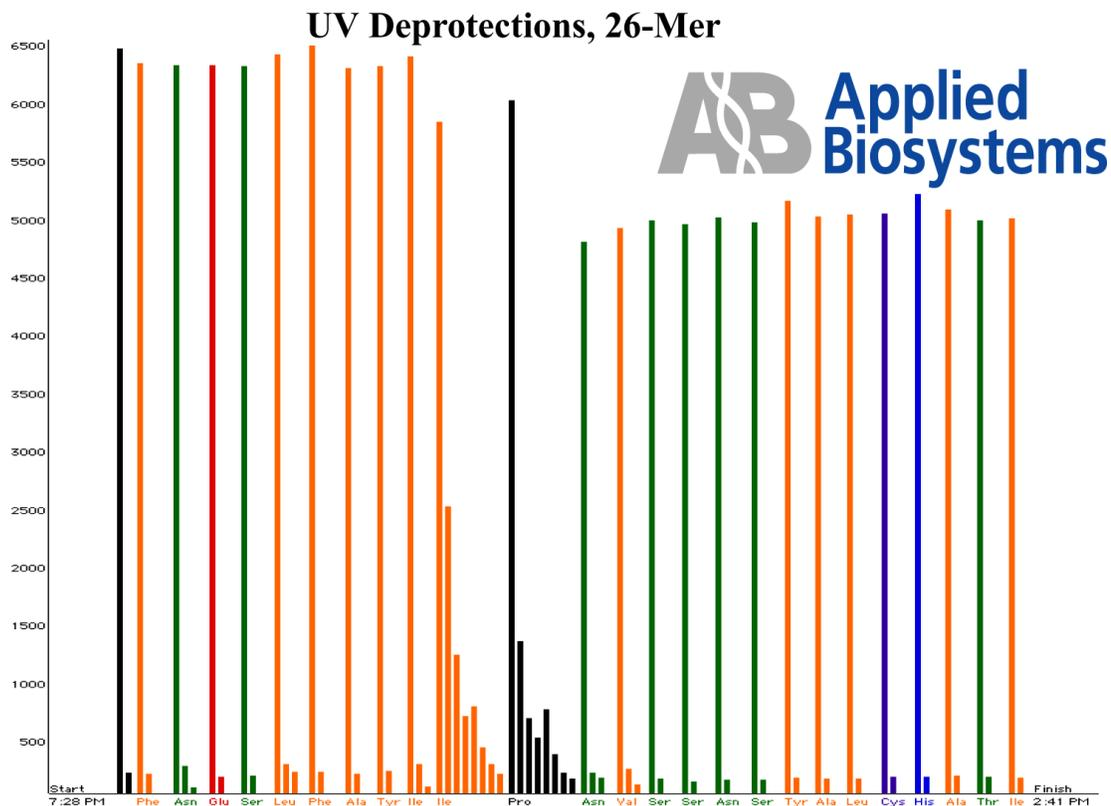

Figure 3-8 The UV trace of the 26-mer synthesis. The trouble begins at Ile(16), not at Asn(14).
The UV profile (Figure 3-8 on page 3-12) gives a different picture of the 26-mer synthesis. The UV trace shows easy deprotections for the early residues, as expected. Ile(16) and Pro(15) require overtime deprotections (with extended coupling and then capping). The subsequent residues become easy to the end of the synthesis.